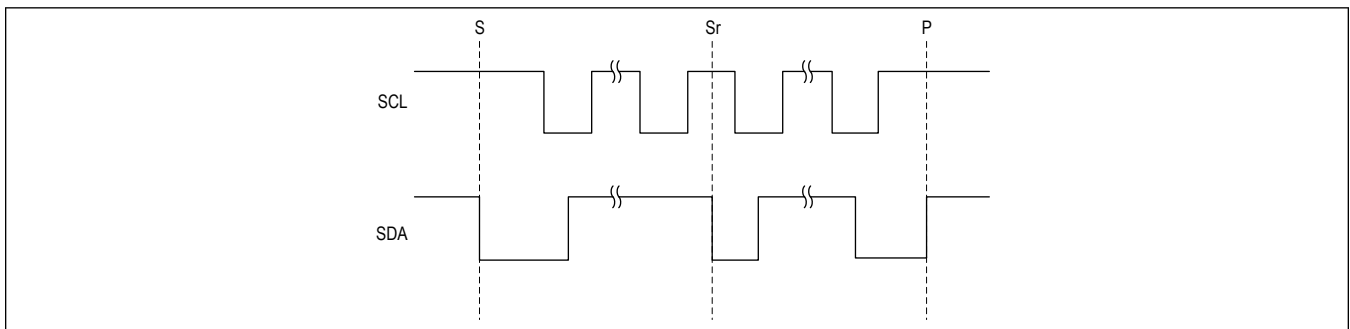

Figure 2. START, STOP, and Repeated START Conditions
A master device initiates communication by issuing a START condition. A START condition is a high-to-low transition on SDA with SCL high. A STOP condition is a low-to-high transition on SDA while SCL is high (Figure 2). A START (S)